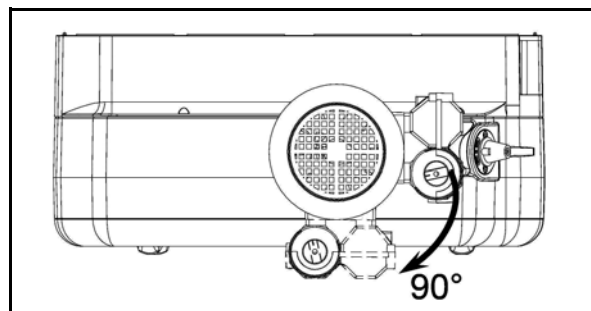

Fig. 11: Mounting of motor
Step 8: Loosen 4 screws on the motor and turn the motor 90° clockwise (Fig. 11).